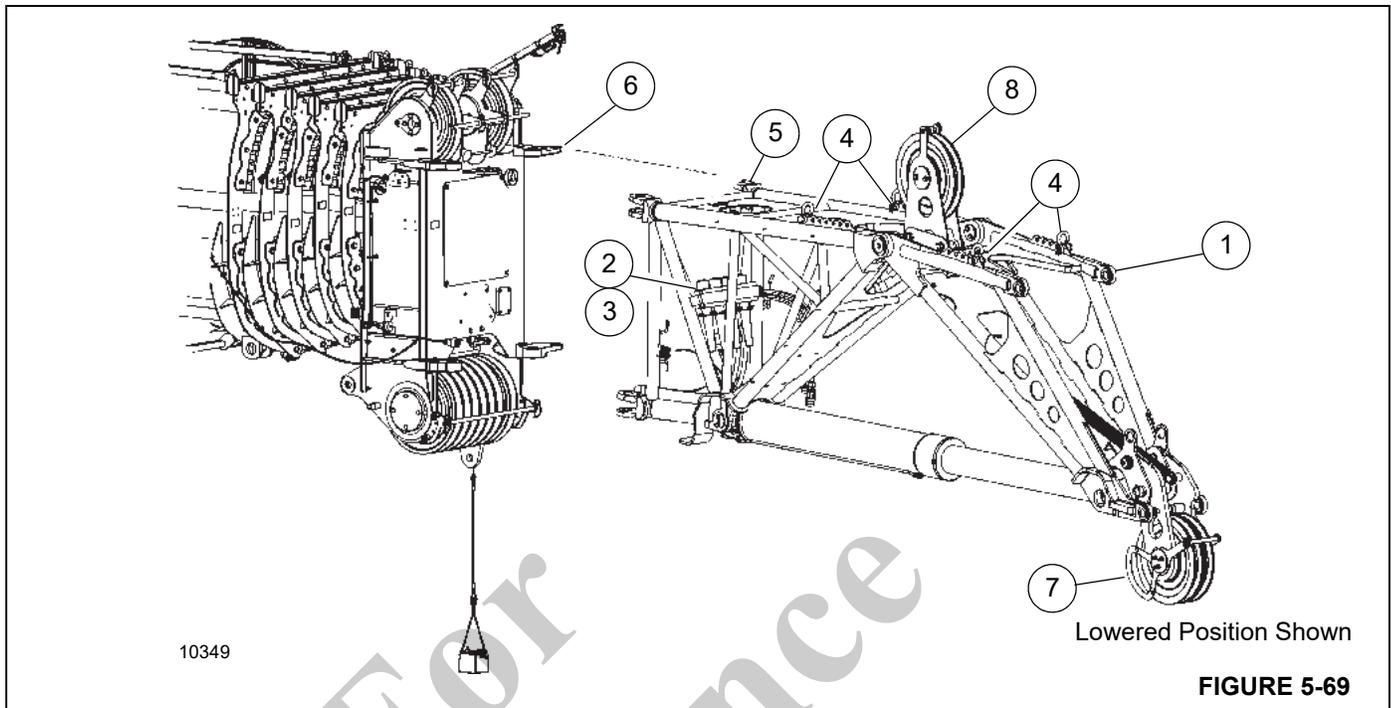

FIGURE 5-69
A 3.9 m (13 ft) hydraulic off-settable heavy duty boom extension (1, Figure 5-69) provides additional boom reach designed for tilt-up panel operations. The extension weighs approximately 942 kg (2075 lb).
7. Remove attachment pins (2, Figure 5-69) and retaining clips (3) from the storage bracket on the heavy duty boom extension.
8. Attach a suitable lifting device to the clevises (4) on the heavy duty boom extension. Lift the heavy duty boom extension in front of the boom nose, aligning the boom extension anchor fittings (5) with boom attachment fittings (6).
9. Install attachment pins (2) in anchor fittings (5) and attachment fittings (6) of the boom nose. Install retaining clips (3) in attachment pins.
7. Lower the mast (8, Figure 5-69).
11. Raise the lower boom extension sheaves (7, Figure 5-69).
13. Attach a suitable lifting device to the clevises (4, Figure 5-69) on the boom extension. Lift the boom extension enough to take the load off of the anchor fittings and attachment fittings. For more information, see *Lifting Points*, page 5-51.
14. Remove retaining clips (3) from attachment pins (2). Remove attachment pins (2) from the boom extension anchor fittings (5) and attachment fittings on the boom nose (6).
16. Install the attachment pins (2) in the bracket. Secure the pins with retaining pins (3).